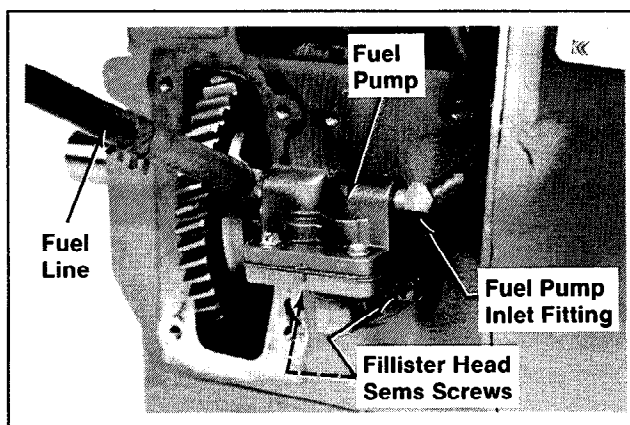

Figure 10-1. Removing Fuel Pump.
2. Disconnect the fuel line from the fuel pump outlet fitting. Refer to Figure 10-1.